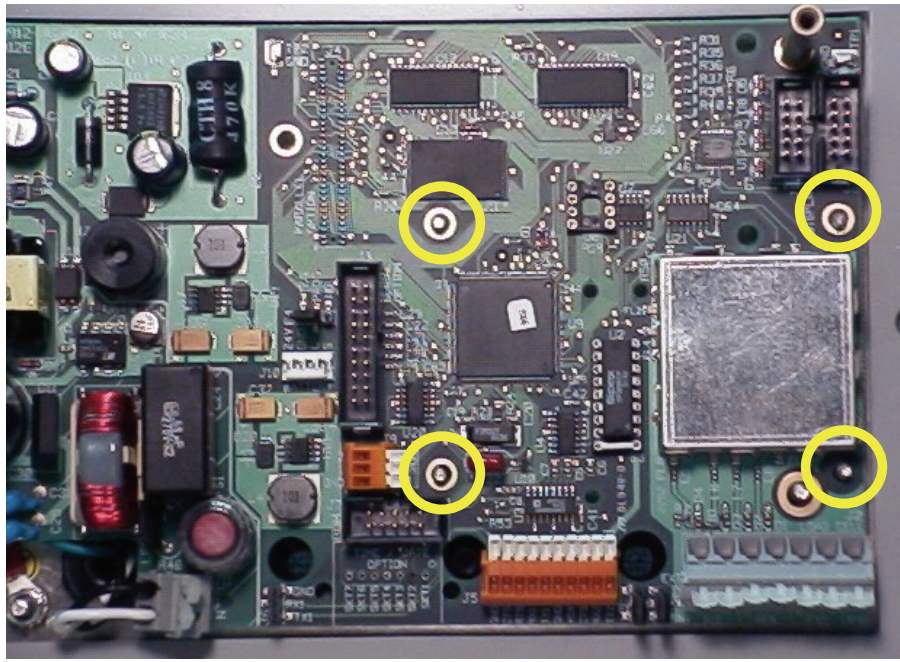
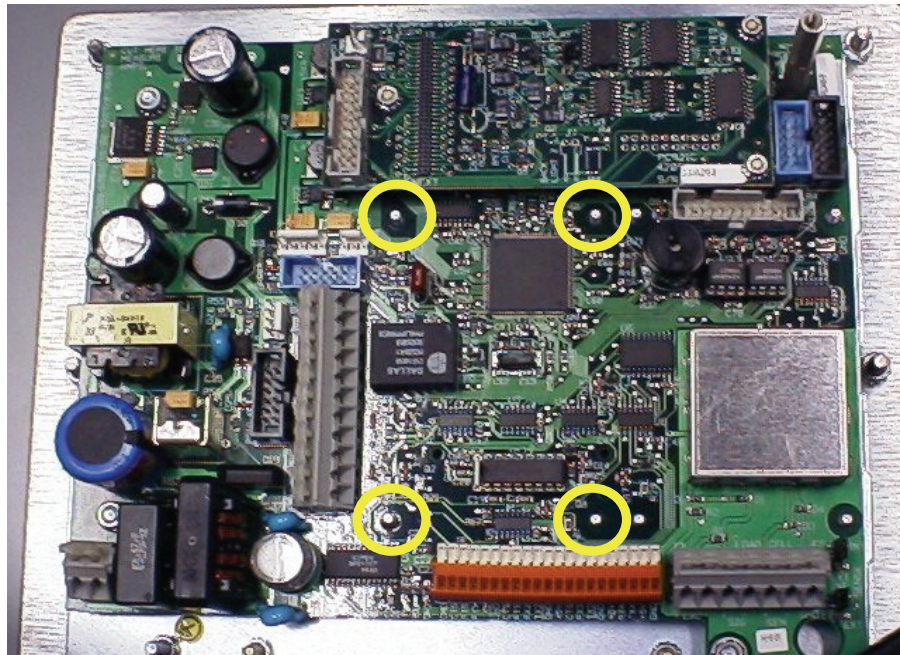

Figure 1: Locating the Option-Mounting Studs, Model 460/465
Figure 2: Locating Option-Mounting Studs, 560 and 660 Series
2. Locate the option-mounting studs as shown in **Figure 1** and **Figure 2** below.
**NOTE:** When installing this module in the 560 and 660 Series indicators, use the second option position as shown in **Figure 2**.